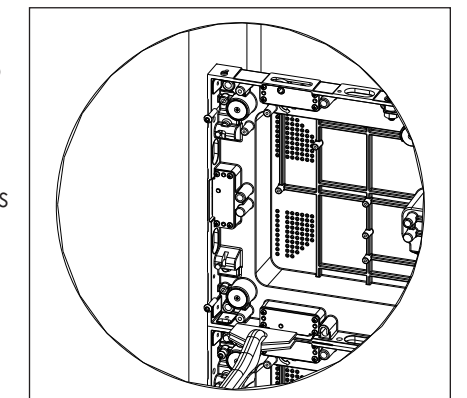

Figure 11: Tighten Jacking Hardware
6. Tighten the jacking hardware next to the existing panel until the panel is firmly seated against the tube. Refer to **Figure 11**. Tighten the remaining adjustment hardware until it contacts the tube.